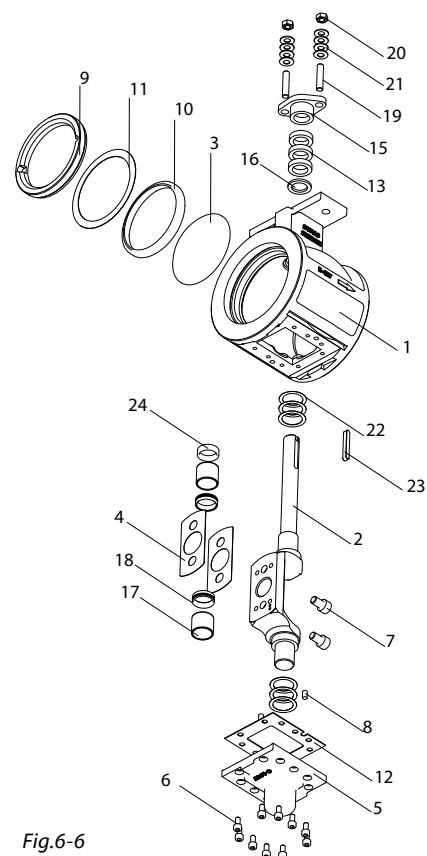
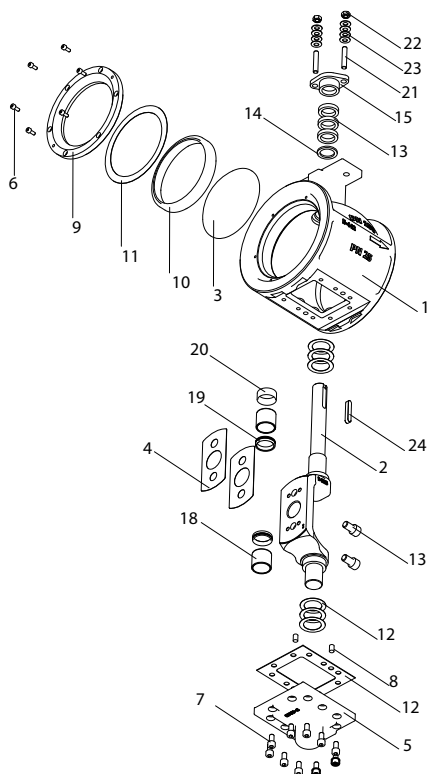

Fig.6-6
Fig.6-7
1. Undo the screws (→ Fig.6-7/6) and remove the coverplate (→ Fig.6-7/9).
2. Remove the spring washer (→ Fig.6-7/11) and the seat (→ Fig.6-7/10)
The cover plates is threaded on some variants. For these valves, it is recommended to use a special tool to remove the cover plates (→ Fig.6-5/25, Fig.6-6/25).
1. Mount the cover plate. The cover plates is threaded on some valve variants. For these valves, it is recommended to use a special tool to remove the cover plates (→ Fig.6-5/25, Fig.6-6/25).
1. Undo the screws (→ Fig.6-7/6) and remove the cover plate (→ Fig.6-7/9) or use a special tool (Fig. → 6-6/25) and remove the cover plate (→ Fig. 6-6/9).
The cover plates is threaded on some valve variants. For these valves, it is recommended to use a special tool to remove the cover plates (→ Fig.6-5/25, Fig.6-6/25).
2. Remove the spring washer (→ Fig. 6-5/11) or (→ Fig. 6-7/11) and the seat (→ Fig.6-5/10) or (→ Fig.6-7/10)
4. Undo the screws(→ Fig.6-5/7) or (→ Fig.6-7/13) alternately with the aid of a Allen key.
5. Remove the ball segment (→ Fig.6-5/3 or (→ Fig.6-7/3).
6. If the valve is equipped with shaft shims - remove these shaft shims (→ Fig.6-5/4 or (→ Fig.6-7/4) from the shaft (→ Fig.6-5/2 or (→ Fig.6-7/2) .
2. Lubricate the bolts (→ Fig.6-5/13) or (→ Fig.6-7/13) of the shaft device with molybdenum disulfide paste.